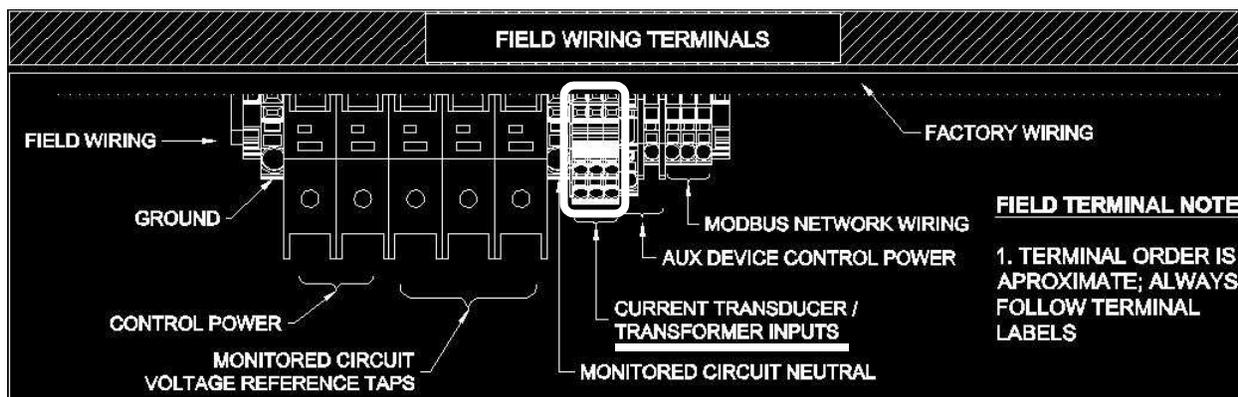

Figure 3 – CT input area
- Figure 3 – CT input area 7
- The white CT leads go to the A+, B+, and C+ ‘CTs’ terminals (2.1, 2.3, and 2.5) and the black CT leads go to the A-, B-, C- terminals (2.2, 2.4, and 2.6) (Figure 3 – CT input area).